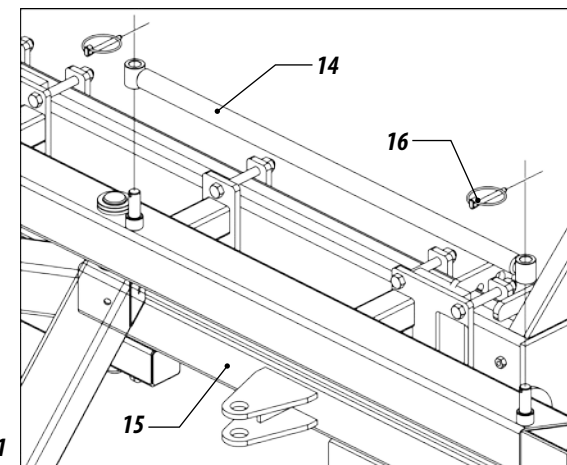

Figure 61
09 - After completely opening the piston and putting the header in the position to transport the seed drill, attach the lock bar (14) to the front frame (15) through the latches (16), figure 61.